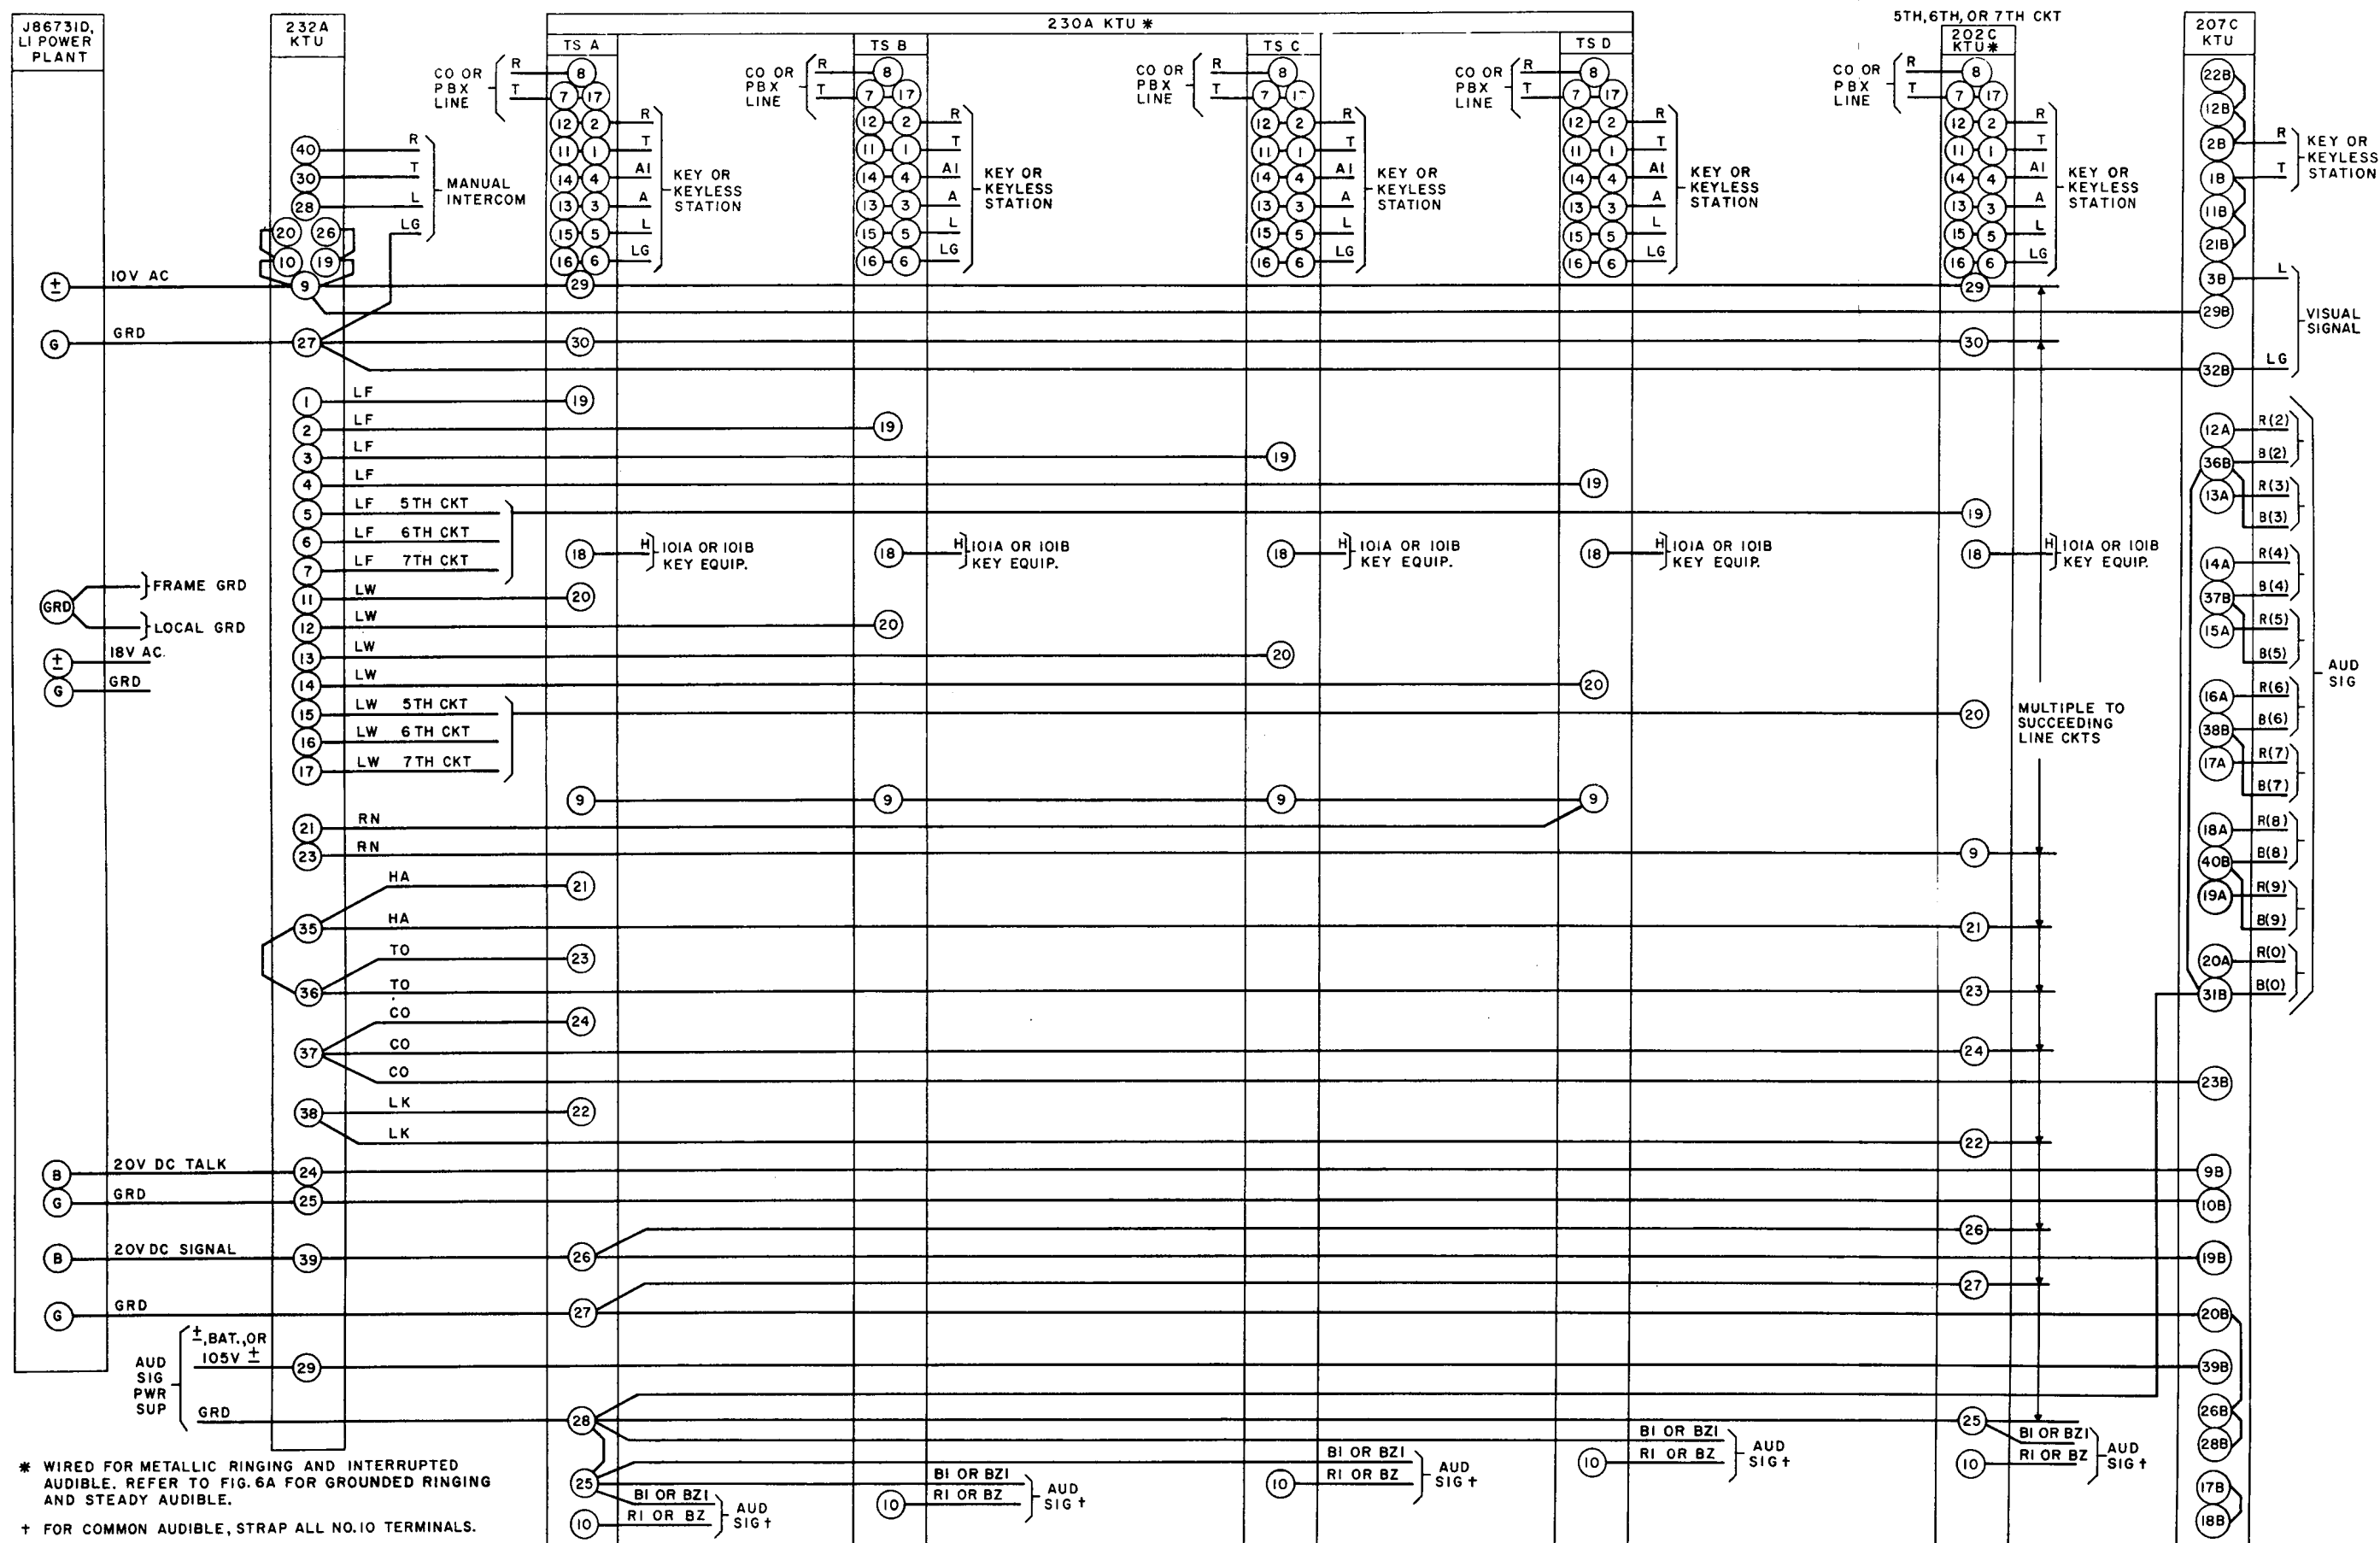

Fig. 4 — 200K-Type KTU (202C, 230A, 232A, and 207C) — Connections and Strappings
3.04 Fig. 4 shows strapping between 202C, 230A, 232A, and 207C key telephone units and the power plant and key cable connections.